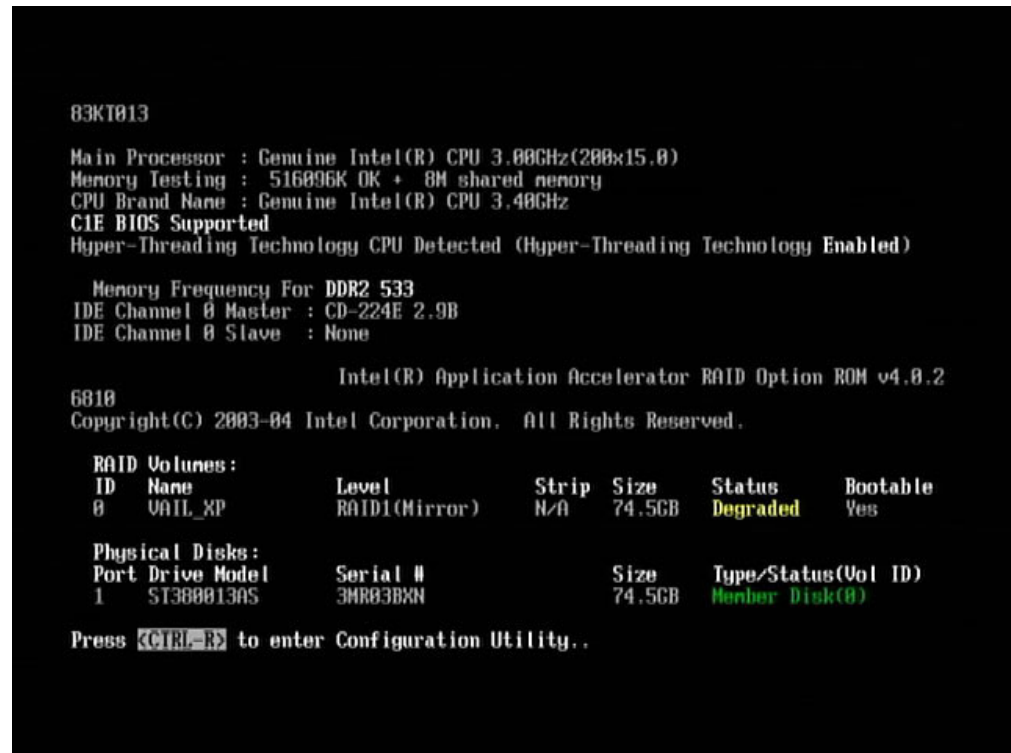

Figure 65. Boot up warning
2. During the reboot, a screen appears that displays information on the failing disk. See Figure 65. Note the Device Port number of the failing disk.